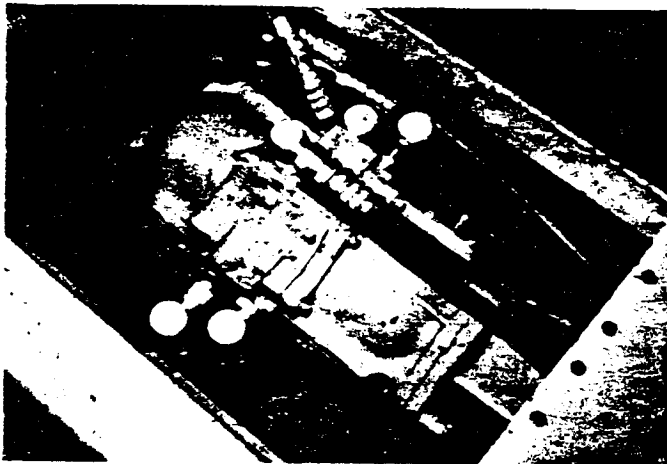

Fig. 13
2. Loosen the two elbow fittings on the left hand side of the transmission. (See Figure 13.)